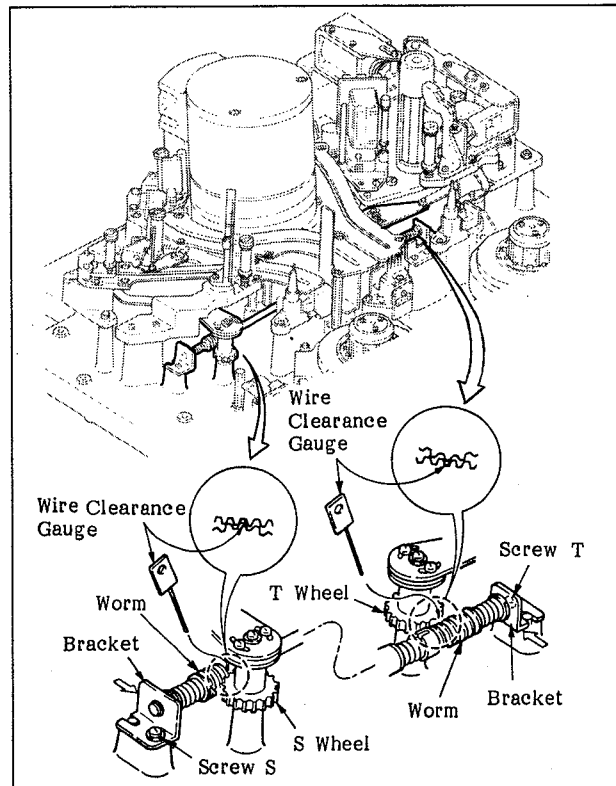

Fig. 6-57. Adjustment of the Clearance between the Link Wheel and the Worm Gear
- Insert the 0.3 mm wire clearance gauge between the worm gear and the S/T worm wheel. Tighten screws S/T firmly while pushing the brackets in the direction shown by the arrows in Figure 6-57.